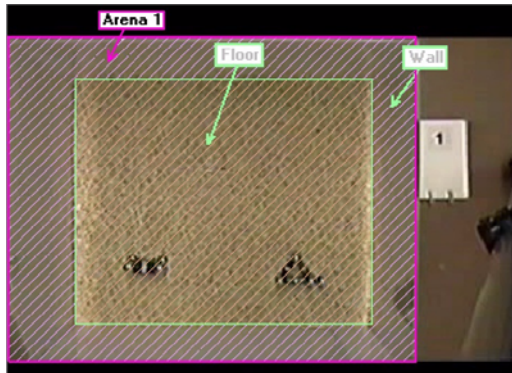

Figure 4.3 Open field with 'Floor' zone and 'Wall' zone.
- **Zone group Floor and Wall.** Check that the ‘Floor’ zone covers the whole floor area of the open field (see Figure 4.3).